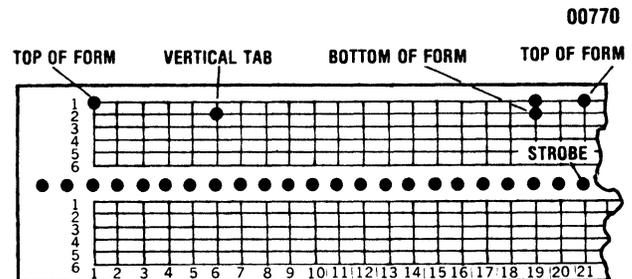

Figure 4-3 EVFU Tape Format
**VFU PAPER TAPE READER**—The VFU tape format is illustrated in Figure 4-3. The 2-channel VFU paper tape has channel 1 allocated for top of form, channel 2 for vertical tabs, and channel 1 and 2 combined for bottom of form. The 12-channel VFU paper tapes is the same except that channels 2 to 12, are allocated for different vertical spacing requirements. The 12-channel VFU has the ability, under code control from the computer, to switch between channels or skip a designated number of lines.